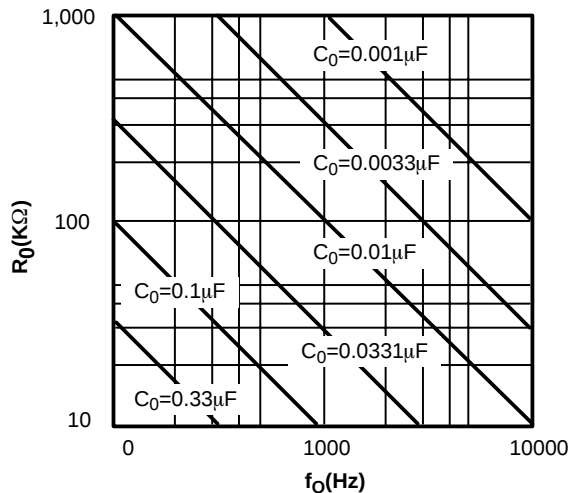

Figure 7. VCO Frequency vs. Timing Capacitor
- c) Calculate value of C_0 from design equation (1) or from Figure 7:
- b) Calculate value of C_0 from design equation (1) or from *Figure 7* $f_S = f_O$: